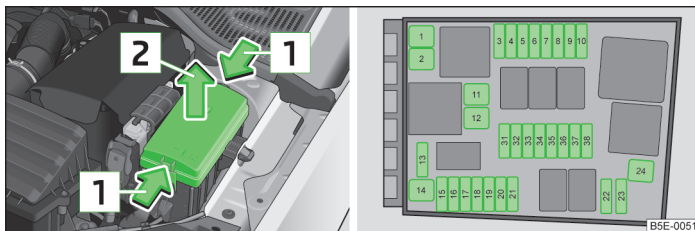

Fig. 210 Fuse box cover in engine compartment/Schematic diagram of the fuse box
- Press together the interlocks of the cover simultaneously in the direction of the arrow **1** » Fig. 210.